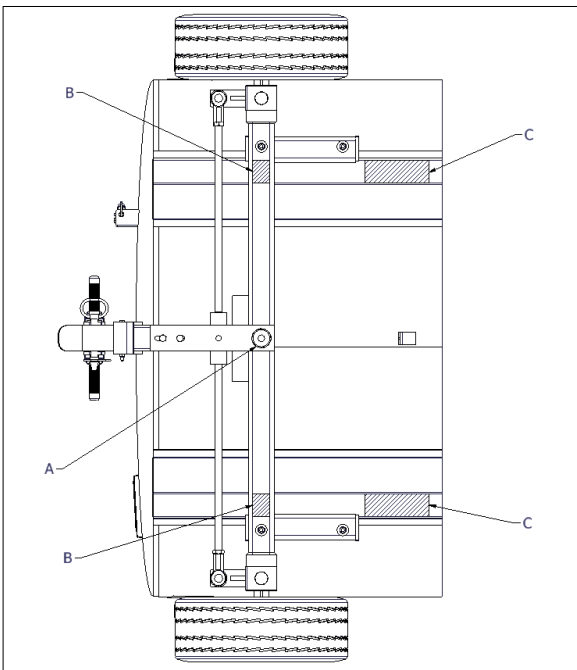

Figure 4-11 Lift Points
To remove the entire Rear Undercarriage assembly, the equipment must have the back end raised. See Section 4.12 and use Figure 4-11.
- Raise equipment with suitable maintenance jack (see Figure 4-11 arrow A for jack placement) and allow for 2-inches of space between the wheels and the ground.
- Place cribbing under tank skids to safely support the equipment. (see Figure 4-11, reference points labeled with a C).